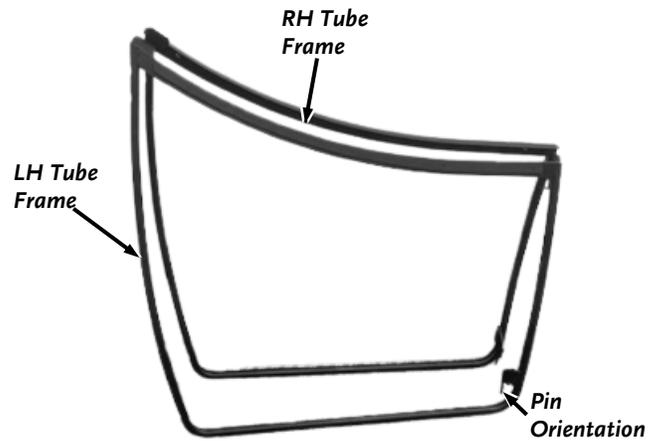

Figure 21
1. Remove any bubble wrap packaging from each Tube Frame and stand up both the LH and RH Tube Frames against a wall, making note of the Pin Orientation shown (Figure 21).